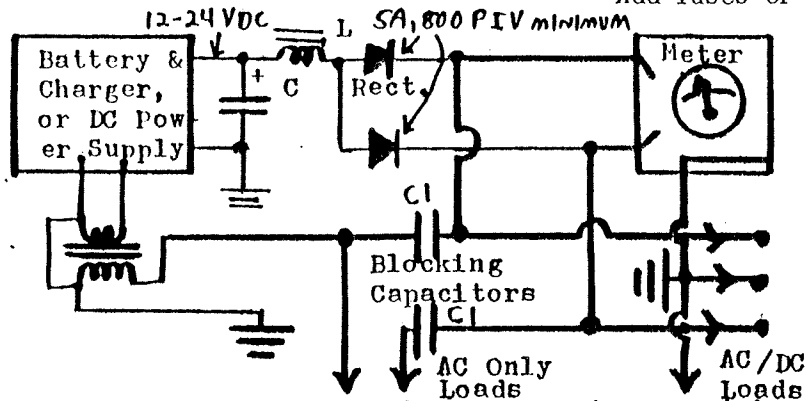

Fig. 3: Direct Current Method. Inductors must be large.
1) **DC LOADS:** DC Loading is the hardest to accomplish but it is the surest approach. If you have induction motors or transformers, they will be also adversely affected by any DC that reaches them. Because DC is not far from 60 Hz, large and cumbersome filtering is required to separate them. C=500 uf, 25 V PIV minimum. L=100 turns minimum, insulated wire on soft-iron core. As with all suggested home-made inductors, keep well insulated and don't use a core that can be touched (eg leg of a drill press). C1=Paper-Oil or Fig. 8 capacitors, 1000 uf, 400 PIV minimum. See Fig. 3.
C2, is suggested because of the ideal behaviour of mica and ceramic at very high frequencies not possessed by other capacitor types. C1 is a 2 uf non-electrolytic. C2 is 0.1 uf mica or ceramic. Both 800 PIV minimum. L=Same as in Fig. 3, be sure to use heavy enough wiring to stand loading. L1 inductors are made from at least 100 turns each in both insulated meter lines and insulated tone generator lines, tightly packed. Ferrite cores are preferred, air cores are not nearly as good but will work if tone generator voltage and windings are high.